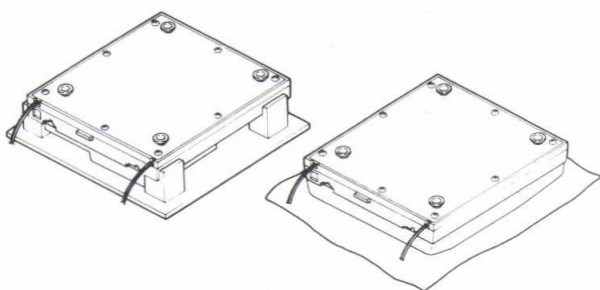

Fig. 2
NOTE: When turning the unit over, either use a work table or install the Dust Cover (13) and place the unit on a soft sheet to avoid damaging the Tonearm. (Figure 2)